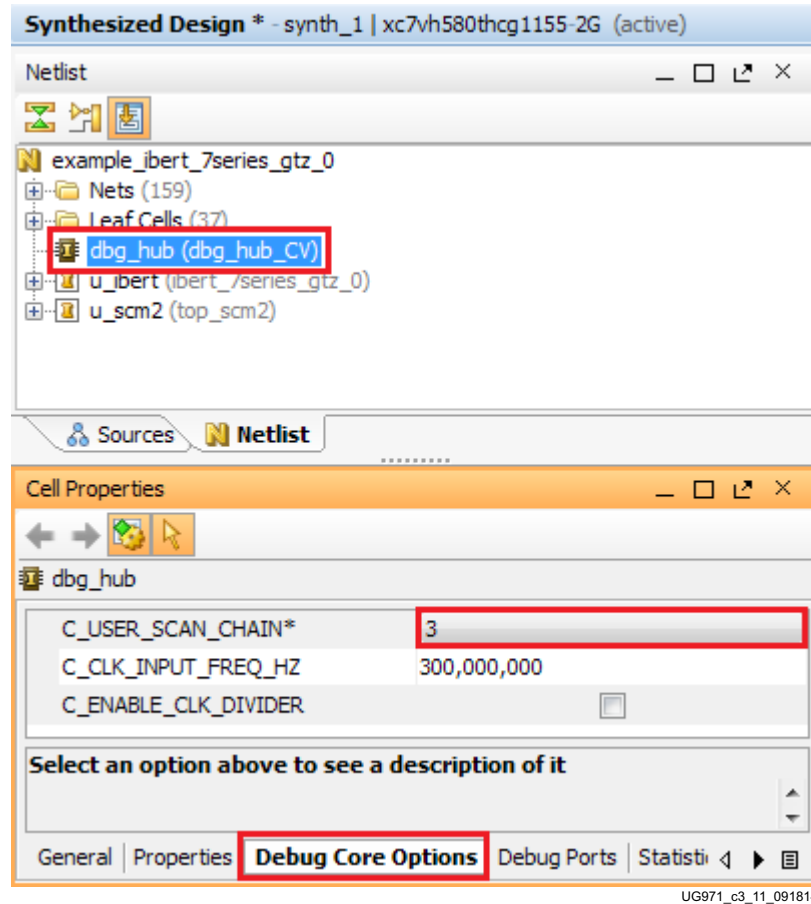

Figure 3-11: Debug Core Options for dbg_hub
- When the Synthesized Design opens, select **dbg_hub** in the Netlist window, then select the **Debug Core Options** tab in the Cell Properties window and change the C_USER_SCAN_CHAIN* option to **3** (Figure 3-11). Click **File > Save Constraints**.